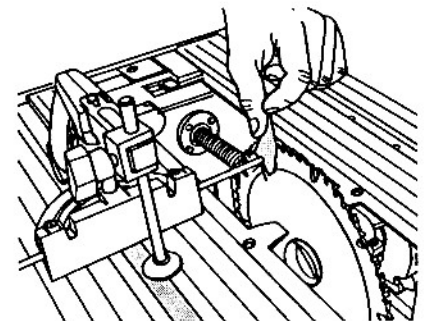

Fig. B-23
25. Try to insert the piece of paper between the blade and the rod, as shown in Fig. B-23. If it doesn't fit as before, do one of the following: